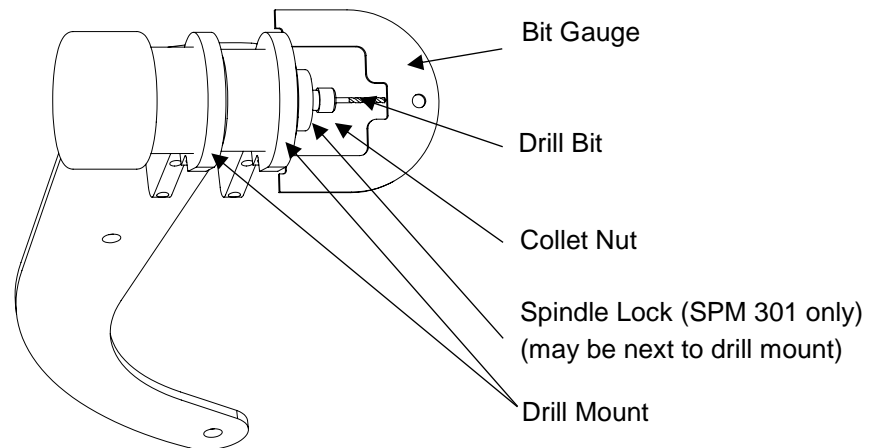

Figure 11: Installing a Drill Bit (SPM301 shown)
2. Using the wrench provided, loosen the collet (by turning nut counterclockwise) (Fig. 11) while holding the (red) spindle lock and remove drill bit.
5. Position the Bit Gauge (Fig. 11) against the Drill Mount (Fig. 11) and pull the drill bit up against the bottom of the Bit Gauge.
5. Position the Bit Gauge (Fig. 11) into the notches of the Drill Shield and against the drill mount (Fig. 12) and pull the drill bit up against the bottom of the Bit Gauge.